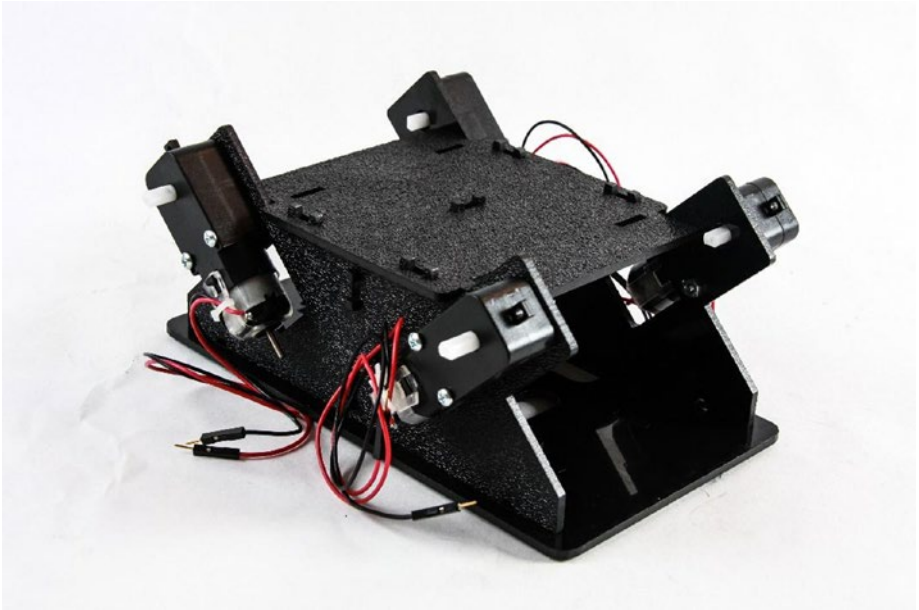

Figure 7-7. *Bottom plate added*
4. Flip the chassis over and attach the bottom plate. There are five sets of tabs holding the bottom plate on (see Figure 7-7).